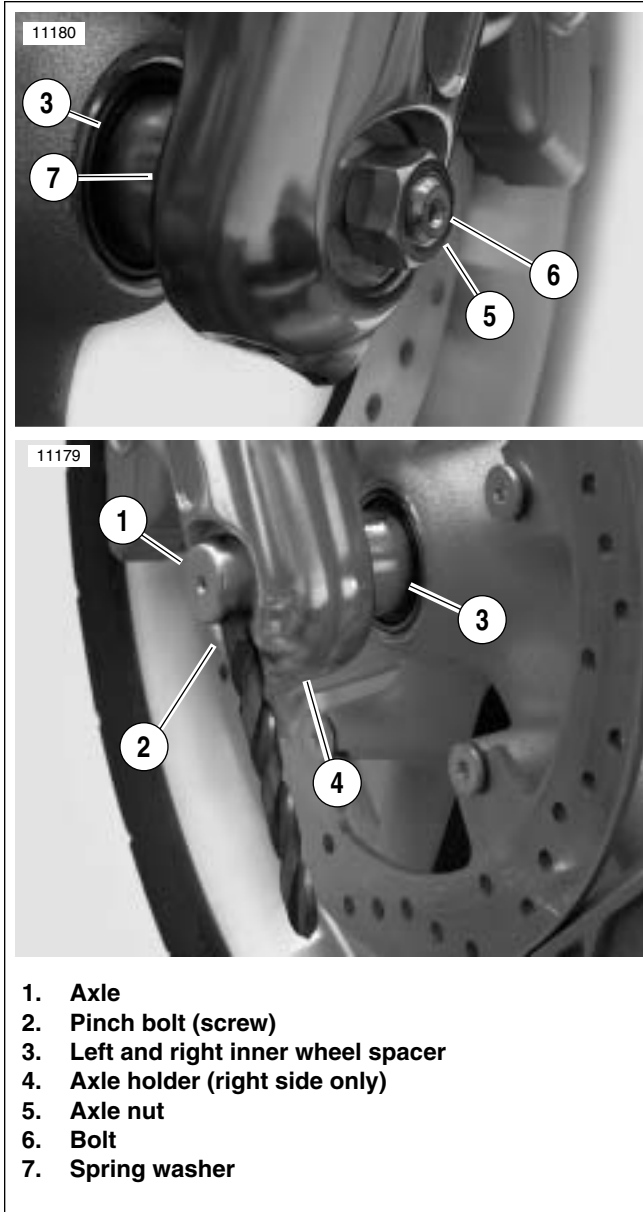

Figure 2-78. Front Wheel Mounting (VRSCR)
6. See Figure 2-78. Loosen pinch bolt (2) in right side axle holder (4).
7. Insert screwdriver or steel rod through hole in axle (1) on right side. While holding axle stationary, remove axle nut (5).
8. Pull axle out while retaining the left and right inner wheel spacers (3).